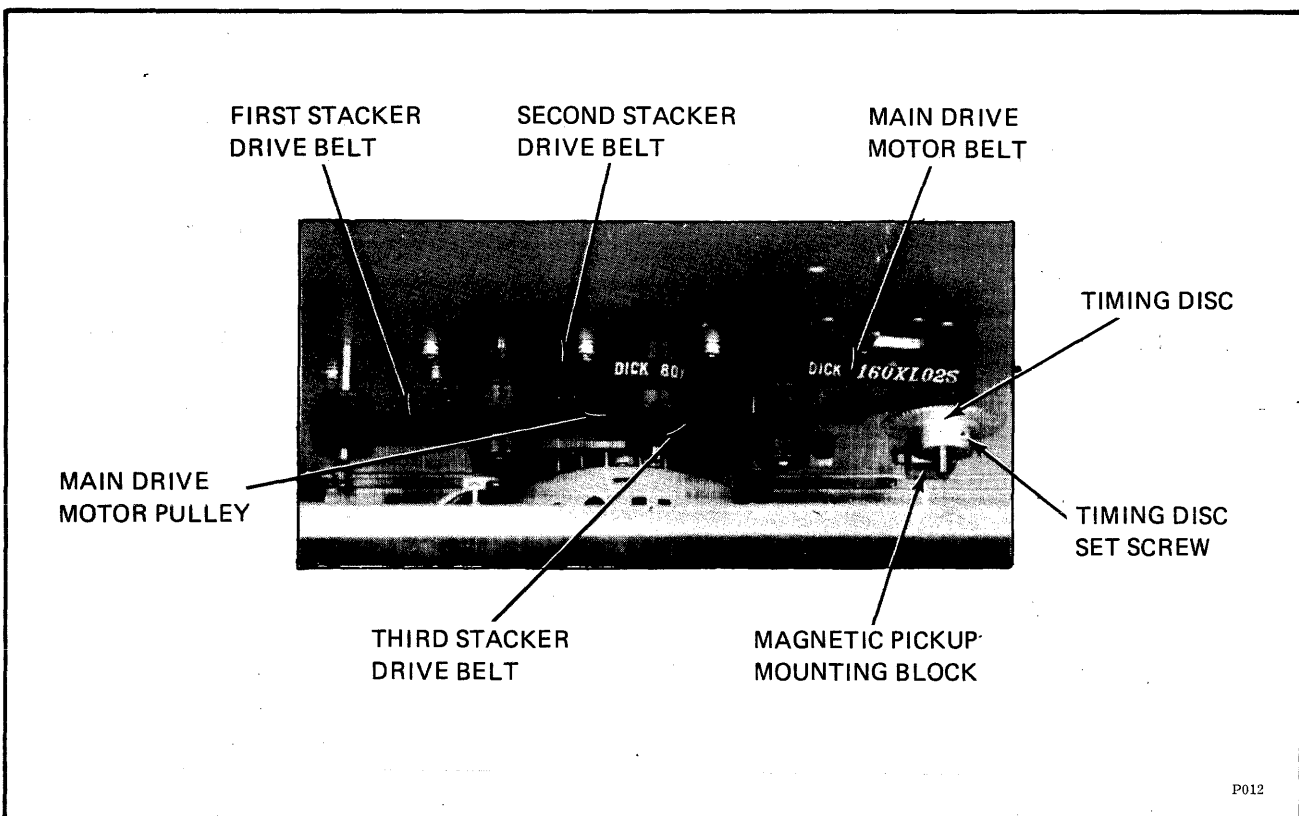

Figure 9-2. Stacker Drive Train Belt Arrangement
- d. Loosen set screw in timing disc (Figure 9-2).
- i. Remove main drive motor belt, Figure 9-2.